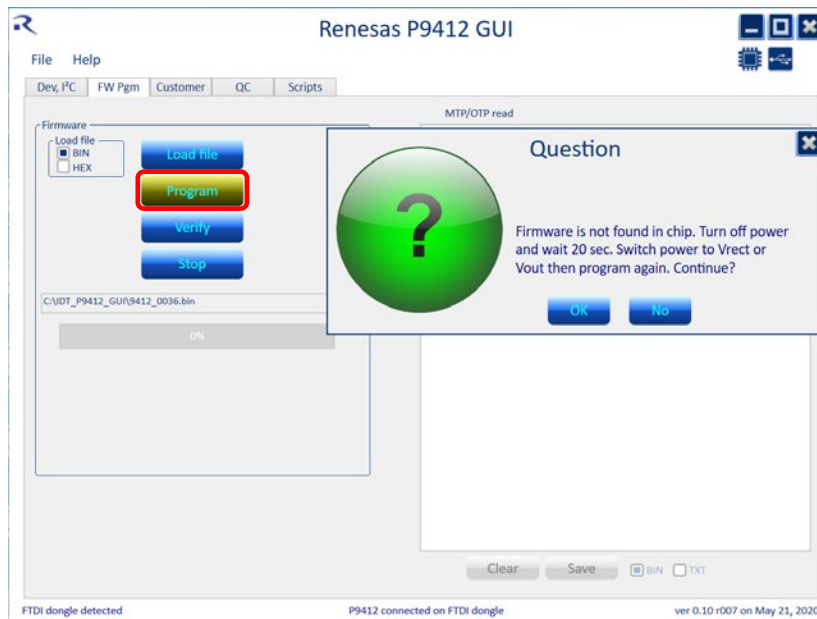

Figure 9. GUI Detects an Unprogrammed Part and Issues a Warning
- a. If an un-programmed part is detected, the GUI will issue a warning message (see Figure 9). Follow the instructions: Turn off the external P/S and connect to Vrect or Vout, wait for 20 seconds, then turn on the P/S and try to program again by “clicking” on the OK button. Failure to connect the external P/S to Vrect or Vout when programming a blank IC can result in damage to the part.